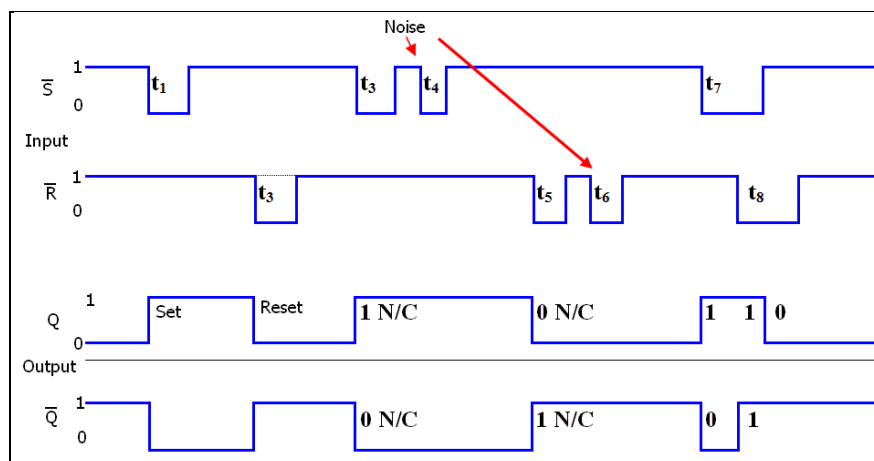

Fig. 3.3-3 NAND Gate RS Flip-Flop Waveforms
The output  $\bar{Q} = 0$  (pin 6) from U2 NAND gate is fed to the lower input (pin 2) of U1 gate as latching input to keep the  $Q$ -output high. Because of this feedback arrangement, the flip-flop is latched into SET state and will stay set until the reset input  $\bar{R}$  (pin 4) of U2 NAND gate is active low (0). Another low pulse to the  $\bar{S}$  input (pin 1) will have no effect on  $Q$ -output because the other input (pin 2) is low (0). Similarly, a low level to the  $\bar{R}$  input (pin 4), while the latch is reset, will have no effect on  $Q$ -output because the other input (pin 5) is low (0). Fig. 3.3-3 describes the dynamic waveforms showing the effects of two inputs  $\bar{R}$  &  $\bar{S}$  on the outputs  $Q$  and  $\bar{Q}$ . Looking at the waveforms, we can determine the state of the flip-flop output prior to the application of negative going trigger pulse at time ( $t_1$ ) where the latch is in the reset state storing a binary **0**. When the negative going trigger pulse ( $t_1$ ) occurs on the  $\bar{S}$ -input, the latch sets the output ( $Q = 1$ ) at the leading edge storing a binary 1.
Note that pulse at time ( $t_6$ ) that may be a **random noise** pulse also occurs on the  $\bar{R}$ -input consecutively that does not affect the complementary outputs and therefore, RS flip-flop acting as noise filter. Finally, a pulse at time ( $t_7$ ) again on the  $\bar{S}$  input sets the latch and little later  $\bar{R}$ -input goes low while  $\bar{S}$ -input is still active. With both  $\bar{S}$  and  $\bar{R}$ -inputs low, simulating **abnormal** operation of the flip-flop, the **Q** and  **$\bar{Q}$**  outputs are both high and are no longer complementary to each other, as indicated in Fig. 3.3-3. It may be in any unclear state, depending on which input occurs first, indicating neither set nor reset condition that is **undesired** and **invalid** for NAND gate RS flip-flop. The complete operation of a **NAND** gate latch is summarized by the Truth Table 3.3-1 above listing all possible input conditions and resulting output states.